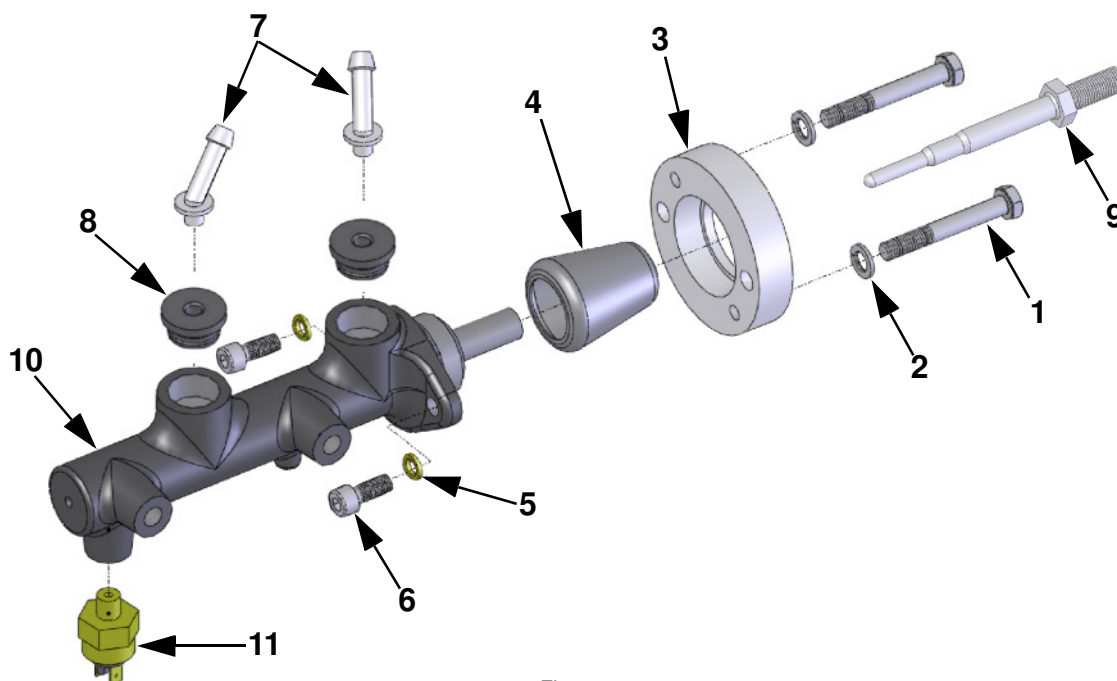
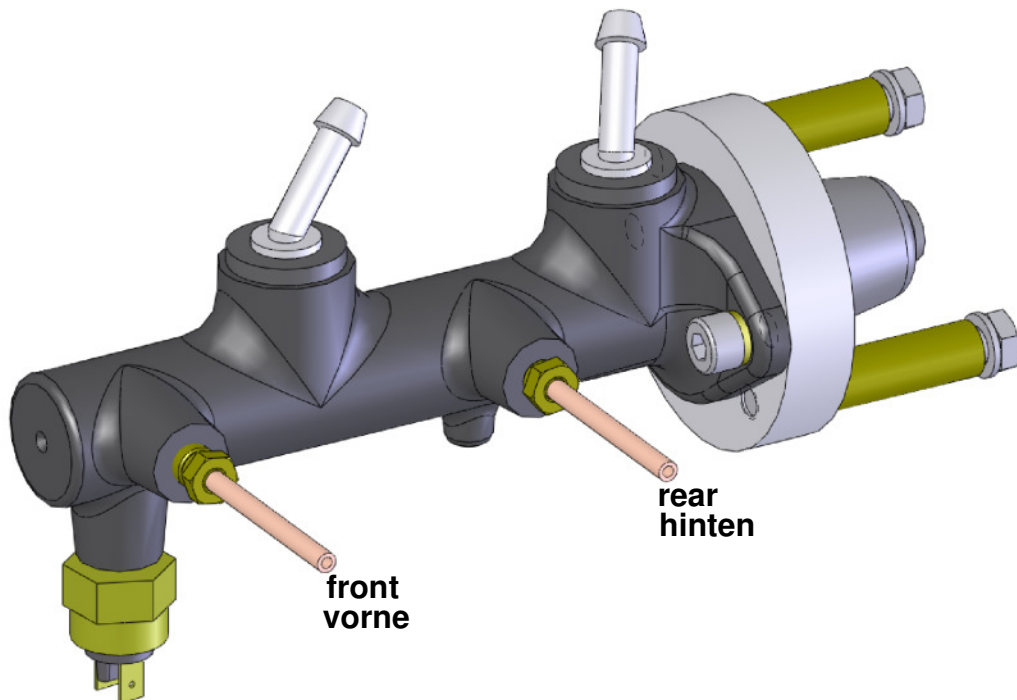

Fig.1
Fig.2
- Put some brake fluid on the outside of the rubber grommets (Pos.8, Fig.1), then push them into the master cylinder.
- Put also some brake fluid on the outside of the plastic elbow connectors (Pos.7, Fig.1), then push them into the rubber grommets.
- Screw in the brake light switch (Pos.11, Fig.1) in the bottom hole of the master cylinder that is farthest away from the pedal push and tighten it with a torque of 12 lbs/ft (15 Nm).
- Place the dust cover (Pos.4, Fig.1) onto the new master cylinder.
- Slide the adapter ring (Pos.3, Fig.1) over the dust cover with the large inside diameter towards the master cylinder.
- Install the adapter ring on the master cylinder with the two allen hex bolts (Pos.6, Fig.1) and the safety washers (Pos.5, Fig.1). The adaptor ring needs to be positioned the correct way, as shown in Fig.2 (note the offset positions of the adaptor ring bolt holes). It is possible to install this the wrong way, so please take extra care.
See Fig. 2 for further information.
Siehe Fig.1 oder Fig.2.
Siehe Fig. 2
- Drehen Sie die Verschraubungen der hinteren und der vorderen Bremsleitung handfest in den HBZ. Siehe Fig.2 .